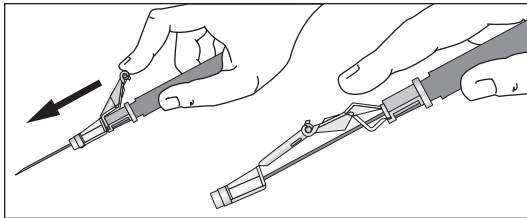

Figure 13
- Immediately activate needle protection device upon withdrawal from patient. For greatest safety, use a one-handed technique and activate away from self and others (see Figure 13).